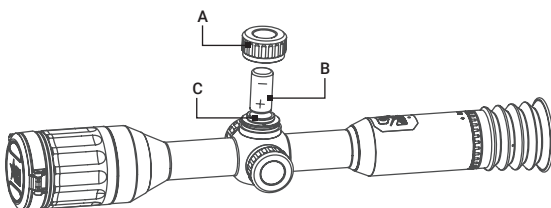

FIGURE 2-2. BATTERY INSTALLATION
1. Turn the battery cover (Figure 2-2, A) anticlockwise to open it.
2. Insert the CR123A battery (B) into the battery compartment (C) with the positive mark inward.